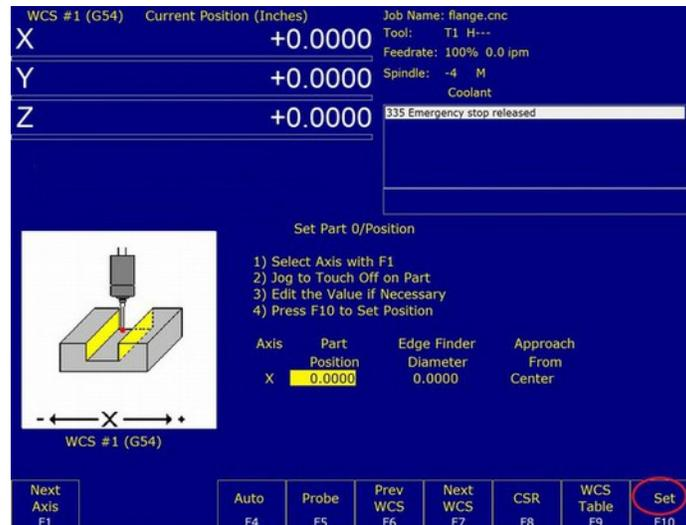

Figure 6.6.1
2. **Zero the software** From the main menu, press **F1 – Setup** → **F1 Part** → **F10 Set Zero** as shown below in Figure 6.6.1.